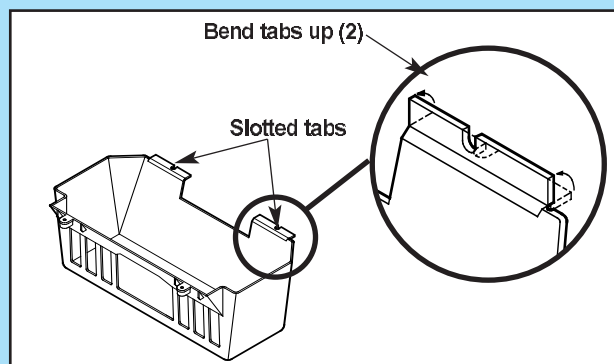

Fig. 11-1
2. Bend two (2) slotted tabs up. This will activate the "living hinge" of the lens (Fig. 11-1).